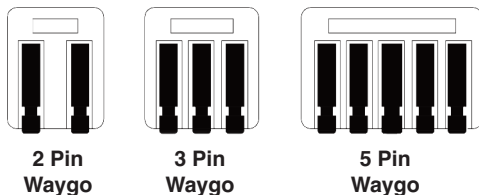

FIG. 13
2. All Wiring inside the fixture use WAGO connector of 5 PIN, 3 PIN and 2 PIN (See **FIG.13**). If need to remove or replace any component in the driver compartment, please keep the WAGO connector for future use.